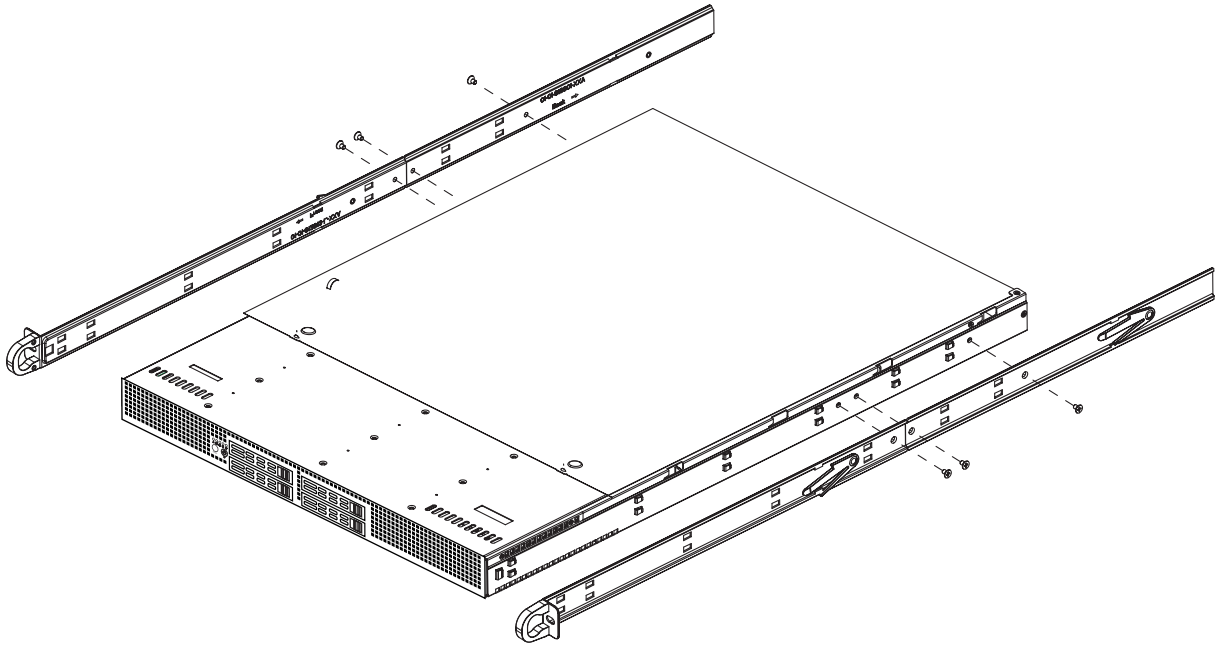

Figure 2-3 Rail to Server Chassis Attachment Example
3. Secure the chassis with screws as illustrated in Figure 2-3 on page 15.